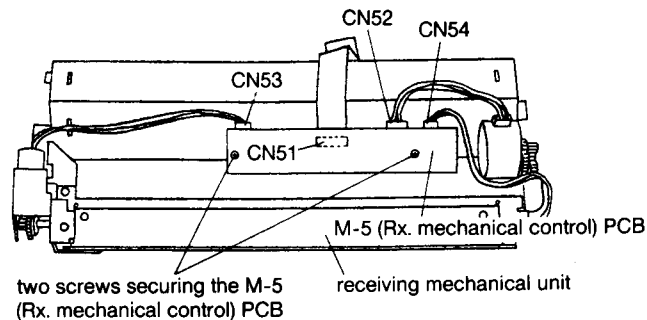
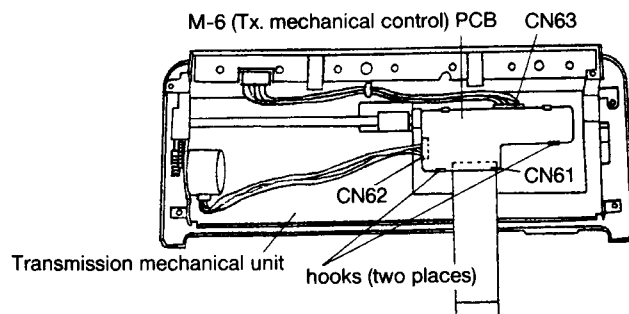

FIGURE 6-8
FIGURE 6-9
- (9) Removal of M-5 (Rx. Mechanical Control) PCB.
- Remove two screws securing the M-5 (Rx. mechanical control) PCB. (See figure 6-8)
- Disconnect the connectors CN51, CN52, CN53 and CN54. (See figure 6-8)
- (10) Removal of M-6 (Tx. Mechanical Control) PCB.
- Remove the hooks (two places) fixing the M-6 (Tx. mechanical control) PCB. (See figure 6-9)
- Disconnect the connectors CN61, CN62 and CN63. (See figure 6-9)